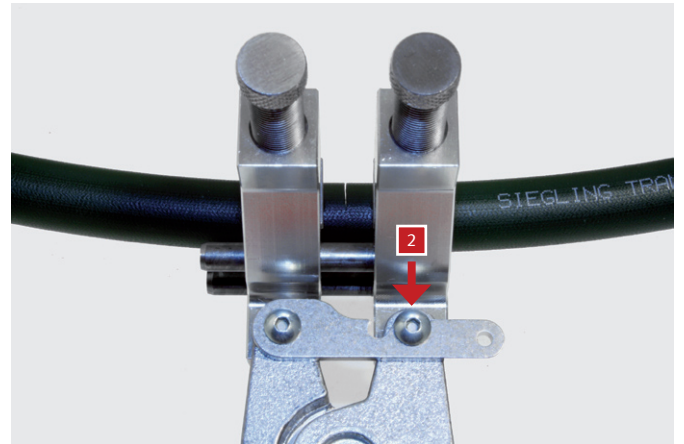

Fig. 4
- 4 • Setting 2 for round belts of 7 to 15 mm diameter notch 2 (Fig. 4)